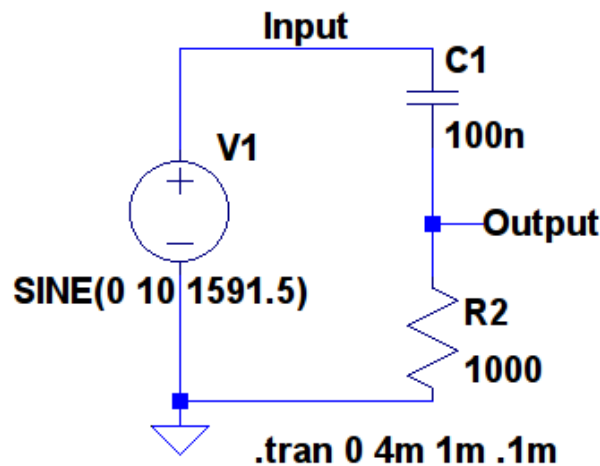

Figure 3: High Pass Filter
- In LTSpice, construct the filter circuit shown in figure 3.